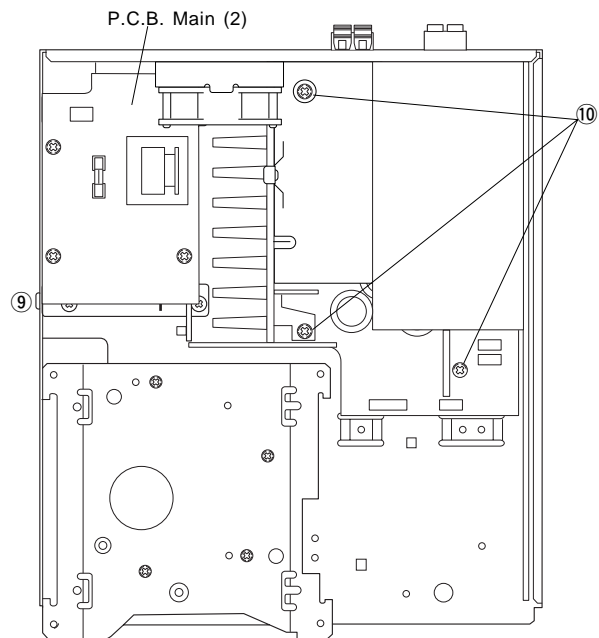

Fig. 7
- f. Remove 1 screw (⑨) and then remove the P.C.B. Main (2) in Fig. 7.
- g. Remove 3 screws (⑩) in Fig. 7.